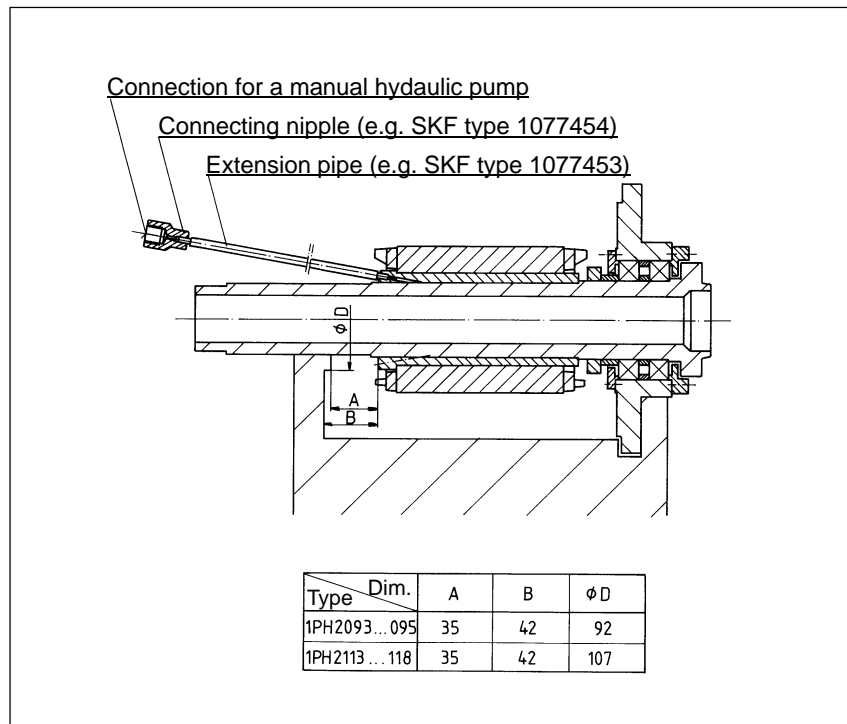

Fig. 1-7 Disassembling build-in motors with sleeve
- Retain the spindle in a vertical position so that the oil connection bores are located horizontally above one another and provide an endstop. The rotor can suddenly release when the oil pressure is being established! Arrange a set-up which holds the rotor (refer to Fig. 1-7).